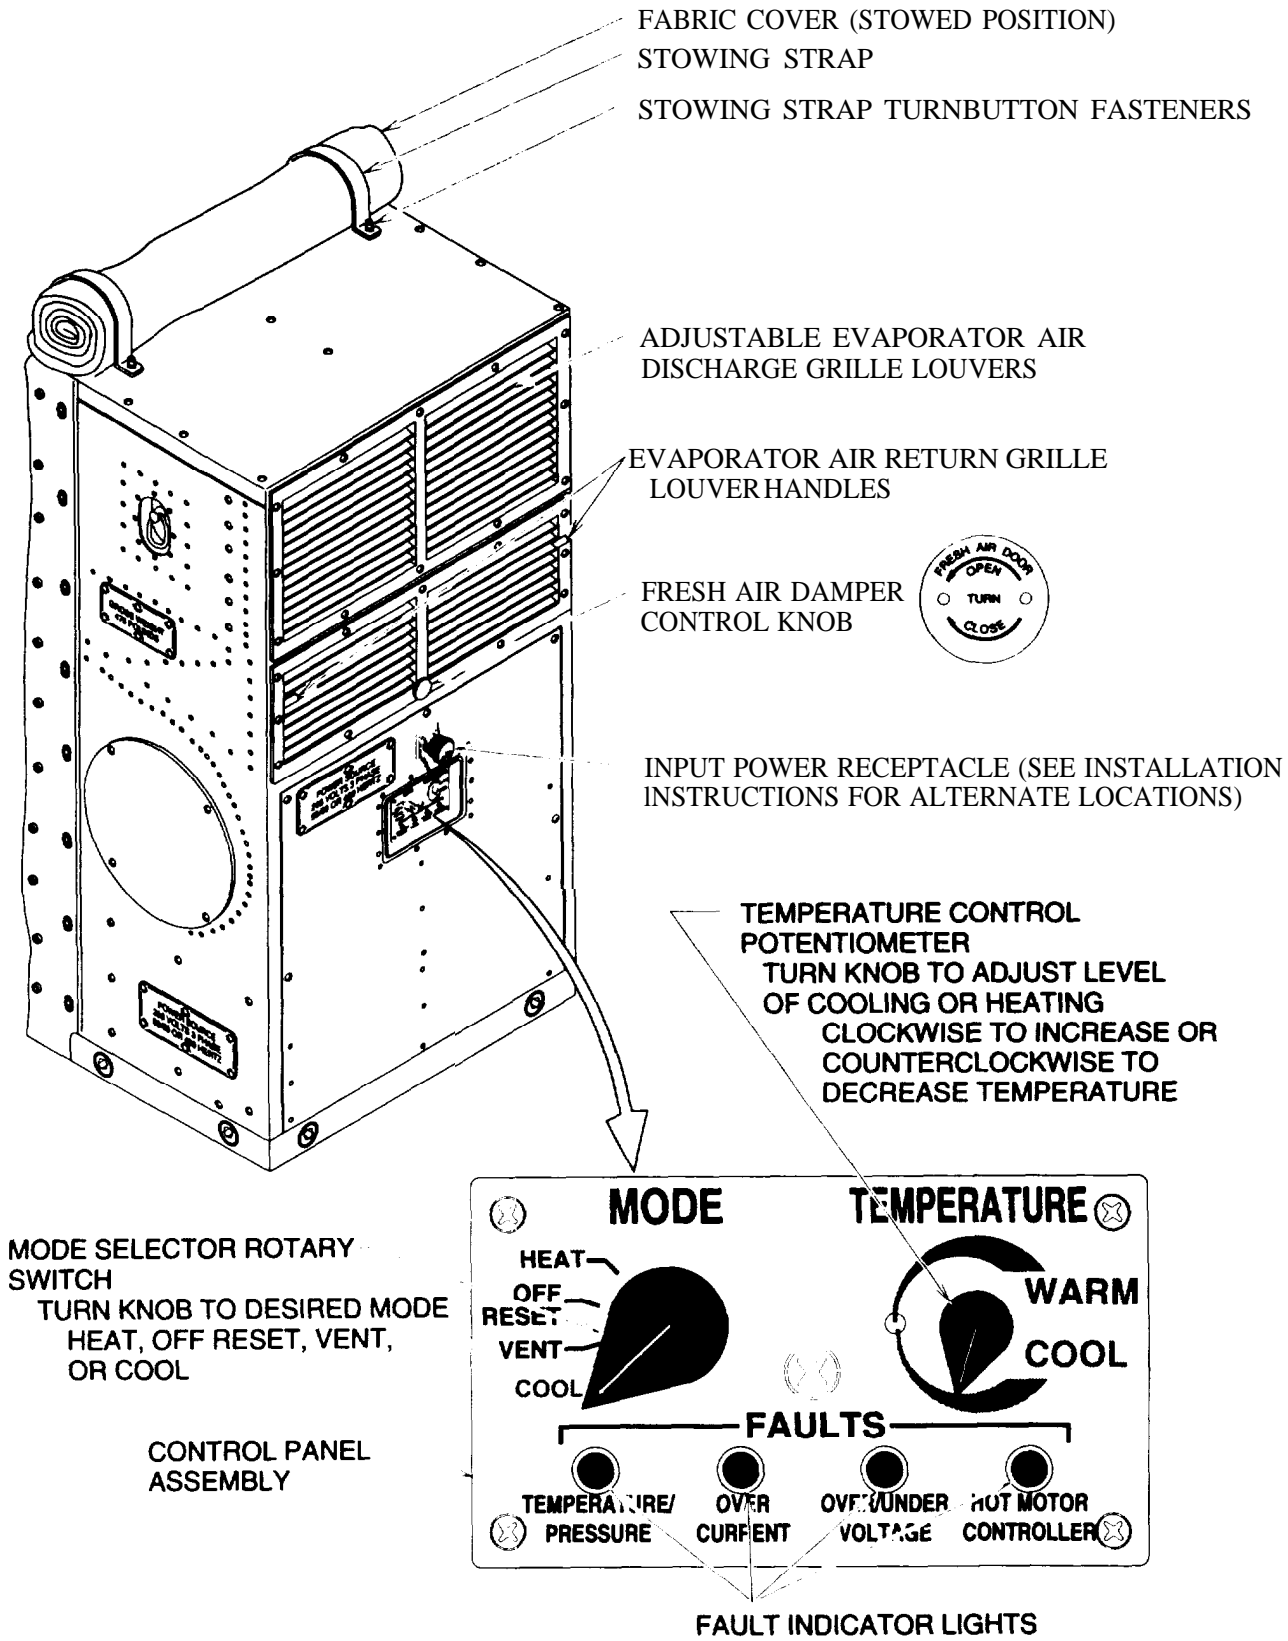

Figure 2-1. Operator's Controls (Front Panel)
**2-2. OPERATOR INDICATORS.** See Figures 2-1 and 2-2 for location.
(1) The TEMPERATURE/PRESSURE FAULT indicator will come on if either of the evaporator fan motors or condenser fan motor exceed safe operating temperature. The light will also come on if any of the following switches opens, thermostatic (heater cutout), coil frost, low pressure cutout, or high pressure cutout.
(2) The OVER CURRENT FAULT indicator light will come on if the motor controller draws excessively high amperage.
(3) The OVER/UNDER VOLTAGE FAULT indicator light will come on if the motor controller receives excessively high or low voltage.
(4) The HOT MOTOR CONTROLLER FAULT indicator light will come on if the motor controller is exposed to excessively high temperatures.
**2-3. CONTROLS.** See Figures 2-1 and 2-2 for location.